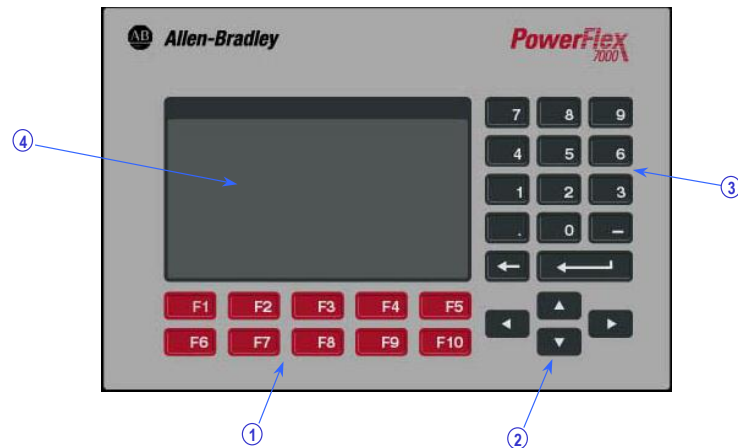

Figure 3.1– PowerFlex 7000 “C” Frame Operator Interface Terminal
The operator interface used on the PowerFlex 7000 “C” Frame Medium Voltage Drive is that of the PanelView 550 terminal (Figure 3.1). This terminal however does not behave as a PanelView, as only the hardware for the operator interface has been utilized. The PanelView software has been replaced with unique software to tailor it to the requirements of the Medium Voltage Drive, and its faceplate has been modified (Figure 3.1).
The keypad of the operator interface consists of two rows of five function keys (item 1 of Figure 3.1) located below the operator interface display area (item 4 of Figure 3.1). In the lower right corner of the operator interface are four keys, which will be referred to as the cursor keys (item 2 of Figure 3.1). Above the cursor keys are data entry keys consisting of the numeric values 0-9, a decimal point (.), a negative (-), a backspace key and a data entry key (item 3 of Figure 3.1).